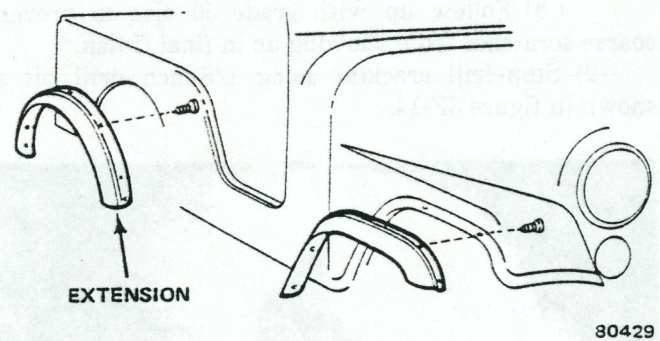

Fig. 3F-13 Fender Extension—CJ Models
(1) Remove screws and nuts attaching inner and outer reinforcements and fender extension to fender (fig. 3F-13).